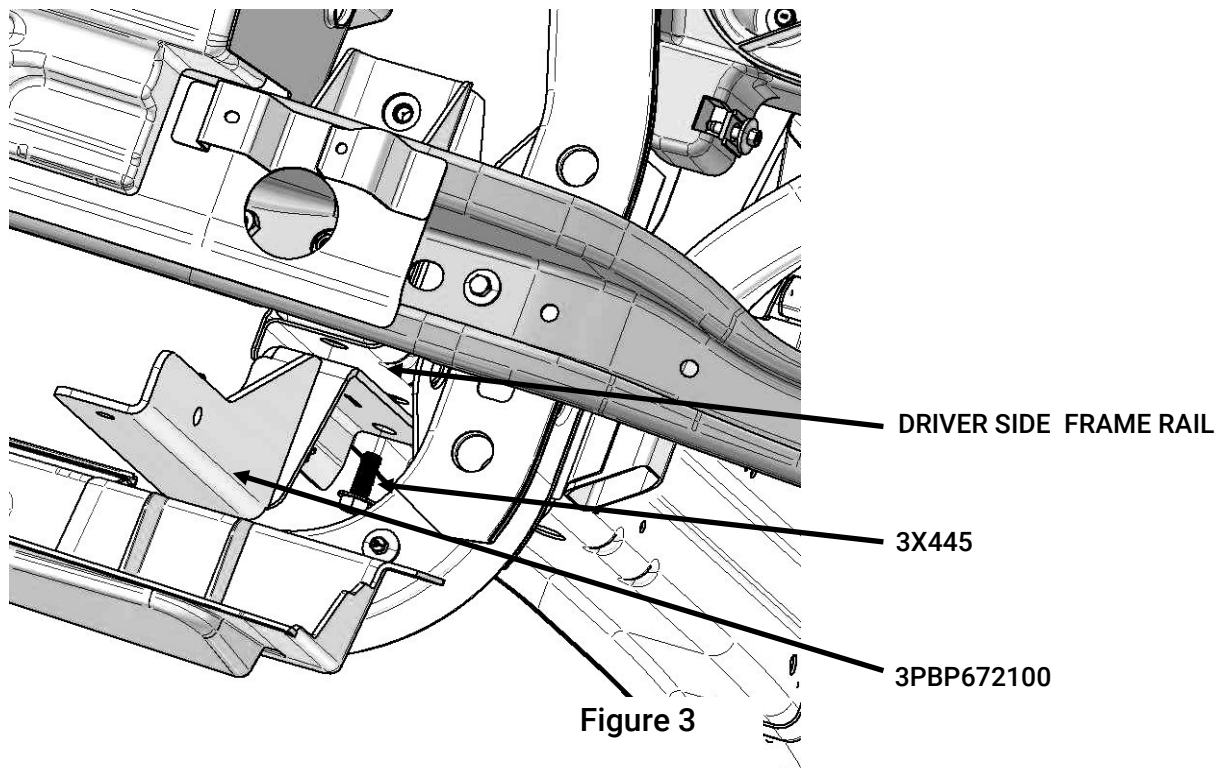

Figure 3
- A. On underside of vehicle, align holes of lower mounting bracket [3PBP672100] to frame rail and fasten using (2) serrated flange bolts [3X445]. (Fig. 3)